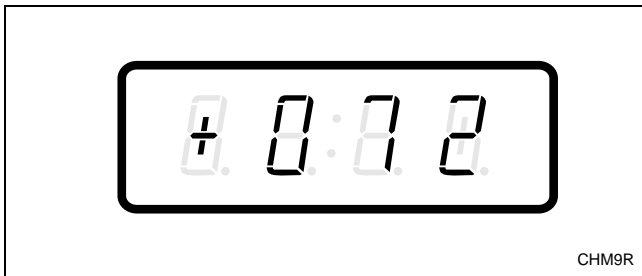

Figure 175
- Press the DELICATES (+) or the COLD (-) keypad to scroll through the programmable options until “+072” appears in the VFD. Refer to *Figure 175*.